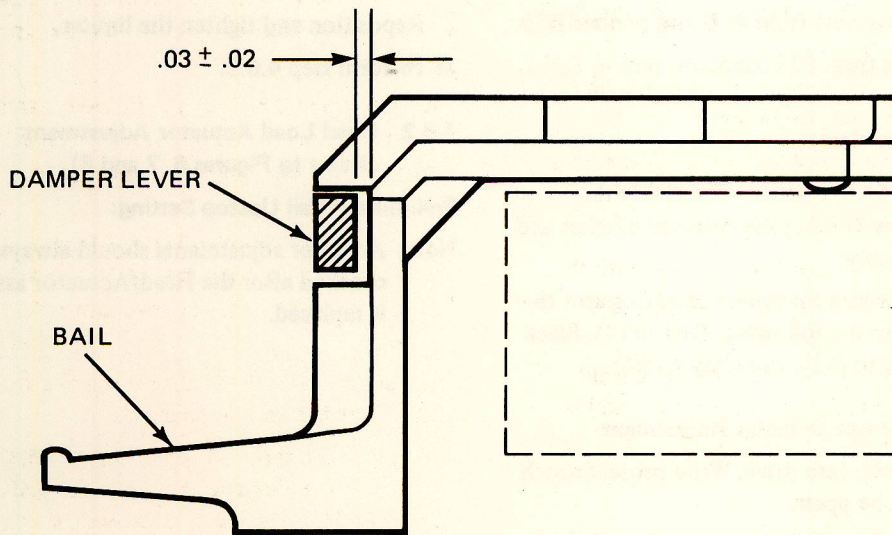

FIGURE 5 DAMPER LEVER LOCATION
- h. Adjust the damper lever location as specified in Figure 5 by loosening the damper adjustment screw. Retighten screw after adjustment.